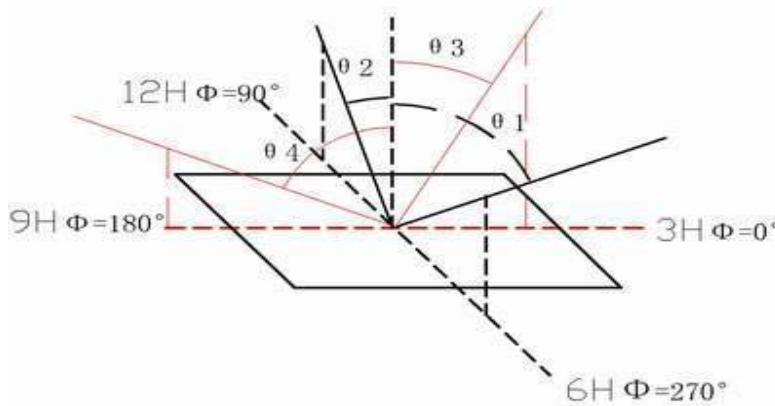

Fig.3
A. The viewing angle is defined as shown below. (See Fig.3)